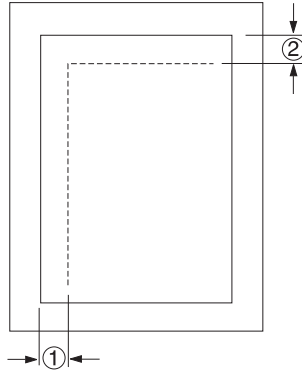

Figure 19. **LINEONE** Coordinates
The previous section showed you how to define the size of a logical page. The next two examples show you how to position the first line of data inside the logical page, using the **LINEONE** subcommand. This subcommand position is relative to the logical page origin, as shown in Figure 19 on page 38. The two coordinates, (1) and (2), of the **LINEONE** parameter define the starting point for the first line of text.